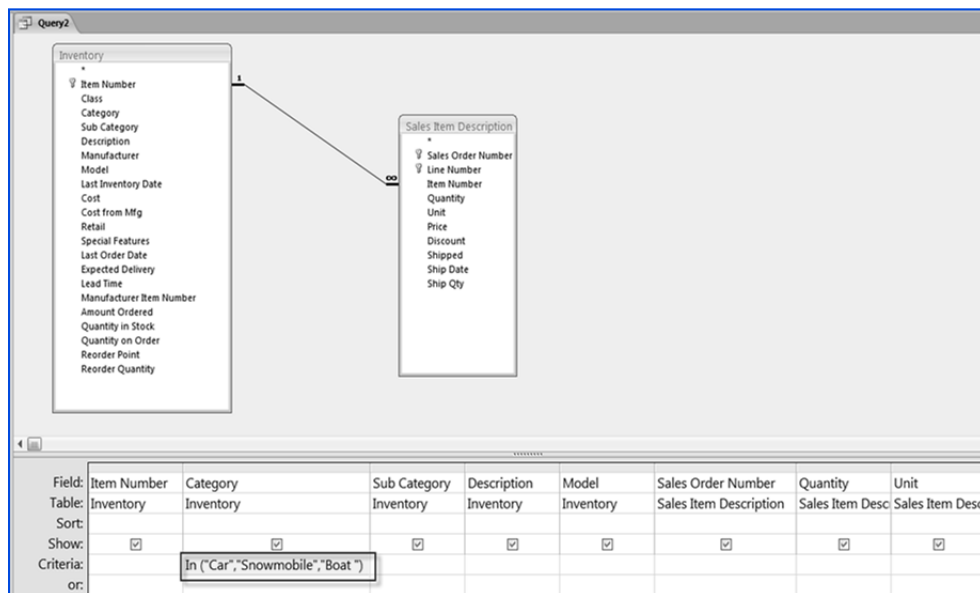

Fig. 3.3.9: Specify Criteria for Column
4. In the *Criteria* section of the *Category* column write the criteria *IN (Car, Snowmobile, Boat)*, as shown in Fig. 3.3.9.